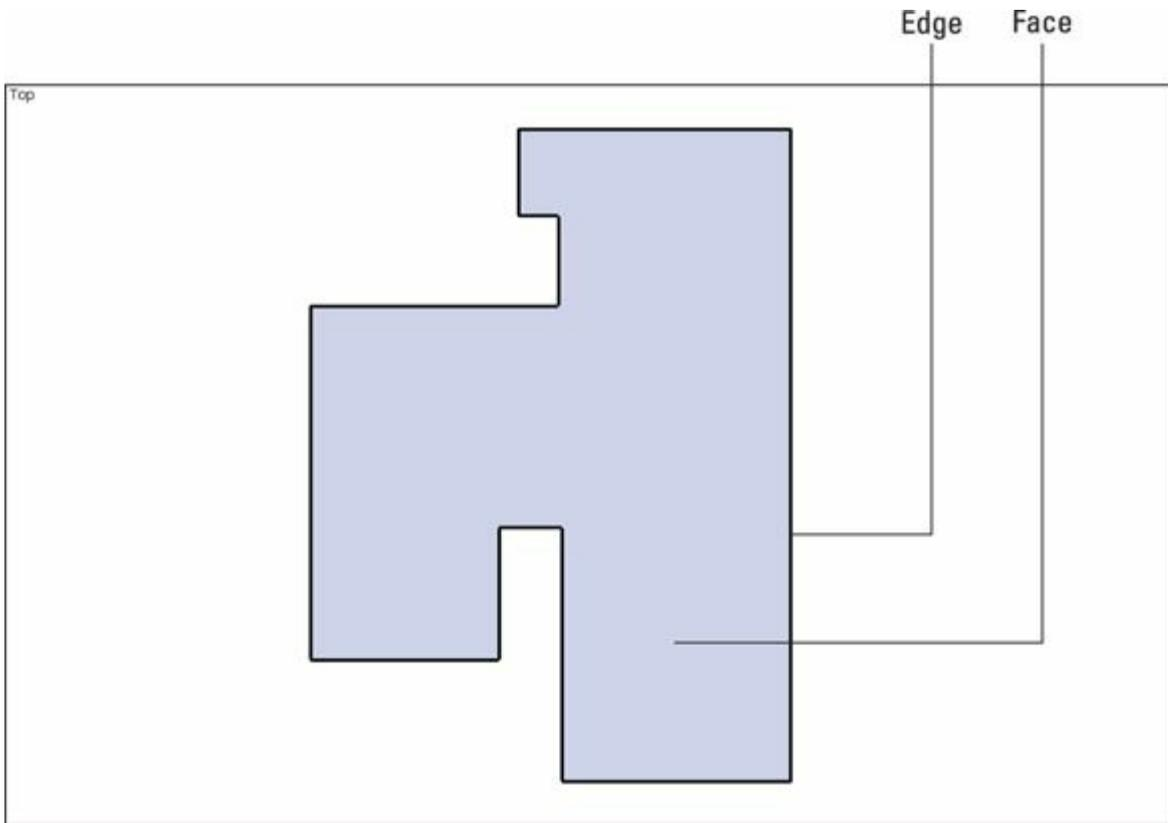

FIGURE 4-12: The completed interior perimeter of Aidan's house.
4. Keep going all the way around the house, until you get back to where you started. See Figure 4-12.